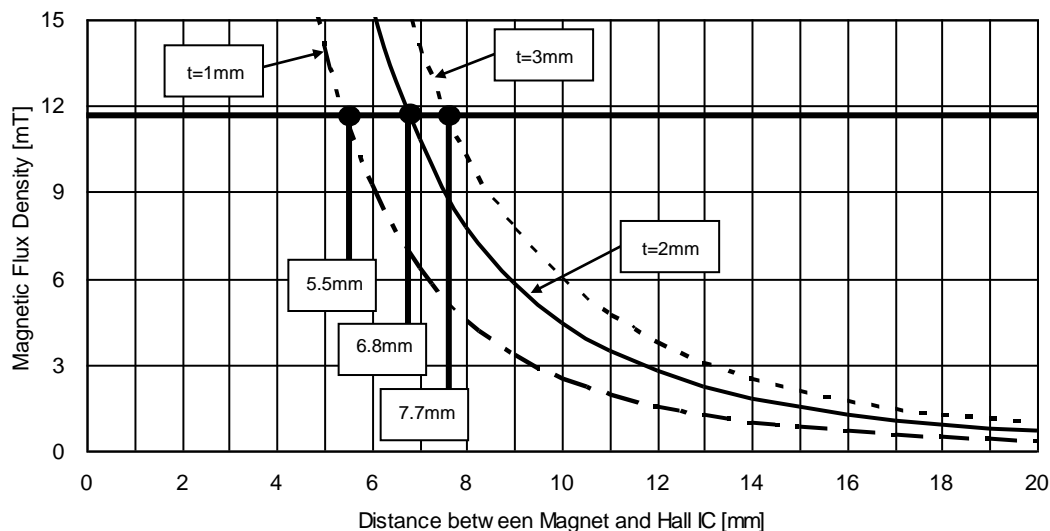
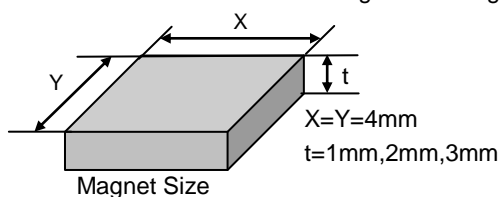

Figure 18. Magnetic Flux Density vs Distance between Magnet and Hall IC
Figure 19. Magnet Dimensions and Flux Density Measuring Point
Of the two representative varieties of permanent magnet, neodymium generally offers greater magnetic power per volume than ferrite, thereby enabling the highest degree of miniaturization, thus, neodymium is best suited for small equipment applications. Figure 18 shows the relation between the size (volume) of a neodymium magnet and magnetic flux density. The graph plots the correlation between the distance (L) from three versions of a 4mm x 4mm cross-section neodymium magnet (1mm, 2mm, and 3mm thick) and magnetic flux density. Figure 19 shows Hall IC detection distance – a good guide for determining the proper size and detection distance of the magnet. Based on the BU52075GWZ operating point max of 11.6mT, the minimum detection distance for the 1mm, 2mm and 3mm magnets would be 5.5mm, 6.8mm, and 7.7mm, respectively. To increase the magnet's detection distance, either increases the magnet's thickness or sectional area.